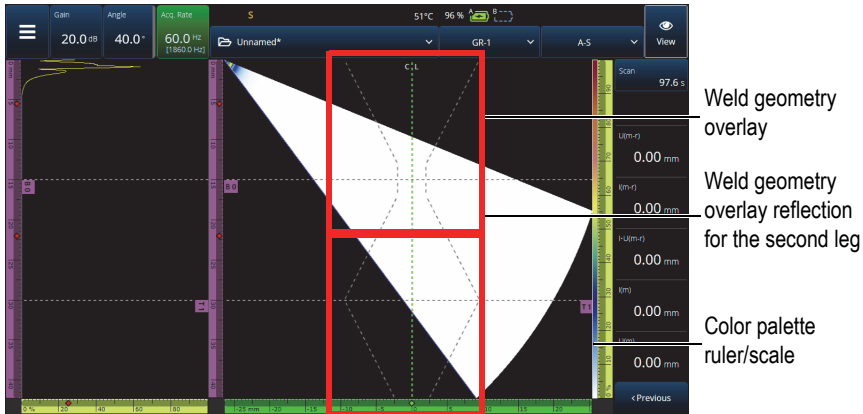
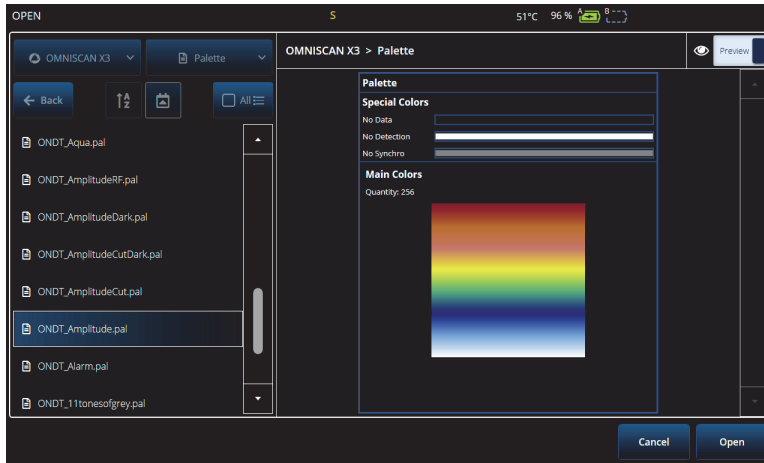
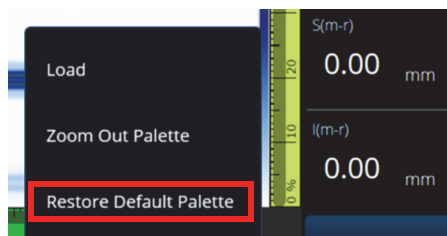

Figure 2-57 Example of a V-Offset weld geometry overlay
Figure 2-60 Color palette selector
Figure 2-61 Restore Default Palette
visualize where indications are located relative to the part or weld geometry (see Figure 2-57 on page 104). Overlay reflection (to take into account the second leg, third leg, etc.) can be turned ON/OFF in the **Menu > Display > Overlay > Multiple Legs**.
- ◆ Tap and hold the color palette ruler/scale (shown on the right side of Figure 2-57 on page 104), and then select **Load**. Review the available color palettes, and tap **Open** to change the palette (see Figure 2-60 on page 108).
- ◆ Long press the palette ruler/scale (shown on the right side of Figure 2-57 on page 104) and select **Restore Default Palette** (see Figure 2-61 on page 108).